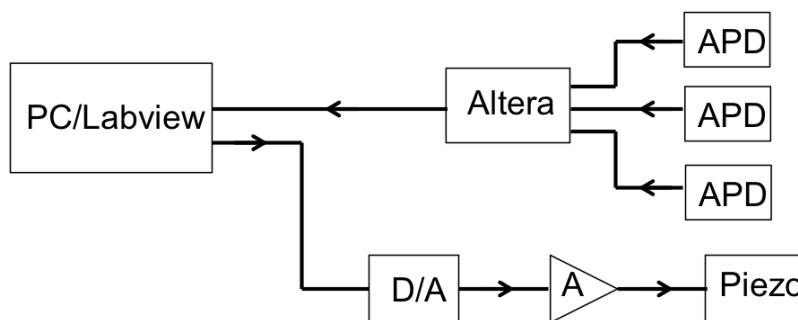

Figure 1: Block diagram of the computer automation of single-photon interference experiments.
Single-photon experiments require the scan of the path-length difference of an interferometer. The acquisition system works as shown in Fig. 1. The single photons are detected by avalanche photodiode detectors (APD). The digital pulses coming from the detectors are received by an Altera board. The latter counts the electric pulses coming from avalanche photodiode (APD), records those counts, the coincidences between selected inputs, and sends those results to a computer (PC). A labview program running on the PC reads the Altera board. The program must also scan the interferometer phase so we can record oscillations in the photon counts as evidence of single-photon interference. For our Mach-Zender, non-polarizing-type interferometer, this is done via a piezo-electric transducer. We apply a voltage to a piezo-electric, which pushes one of the mirrors of the interferometer, and thereby changing the phase. This voltage varies typically from 0 to 150 V. Since this voltage goes beyond what a PC can put out, we much amplify it with a high-voltage amplifier (A). The Labview program must then be able to scan stepwise the voltage that is applied to the piezo-electric, and record the photon counts after every step.